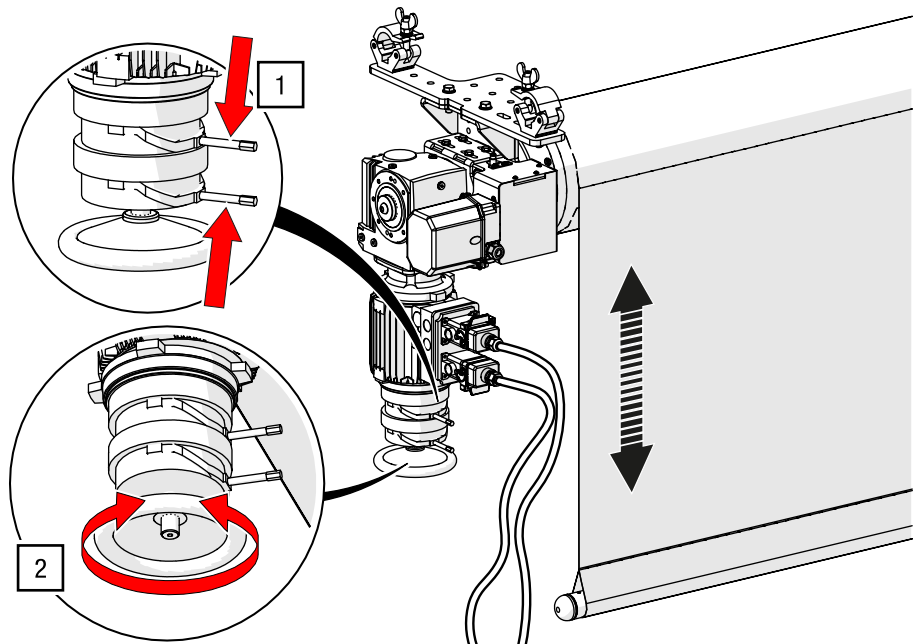

Fig. 52: Release the brake and turn the handwheel
1. Press both brake levers together by hand while holding the handwheel with a firm grip (see Fig. 52).